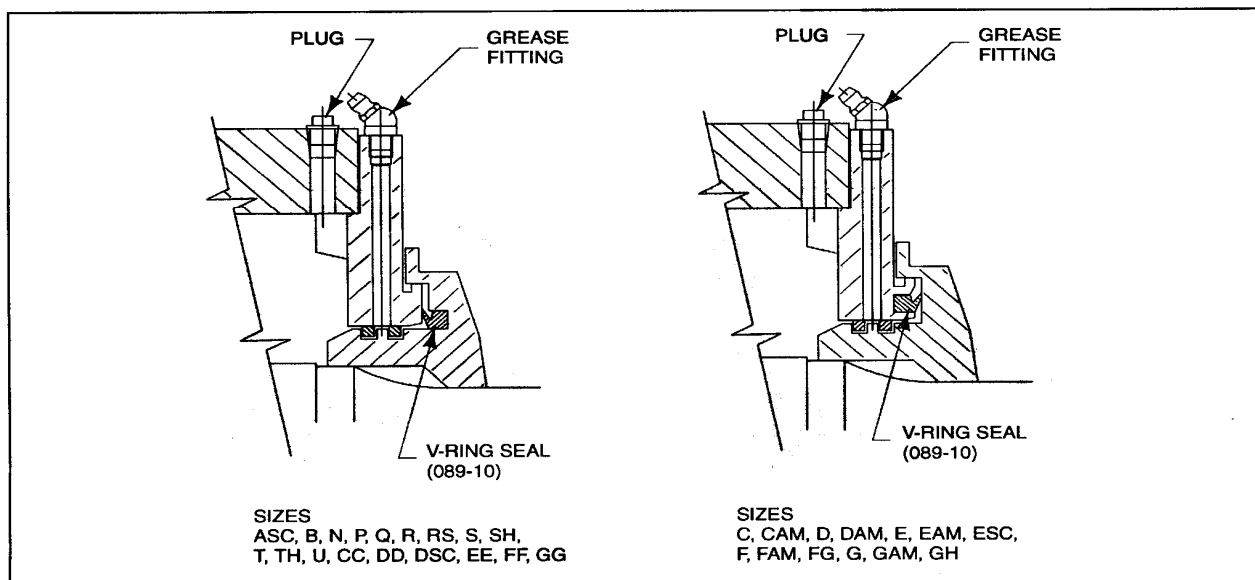

Figure 2-10 • V-Ring Seals
The Type "-10" bearing assembly incorporates a v-ring seal (see *Figure 2-10*) in combination with piston rings. This positive contact seal improved on the piston ring/labyrinth design with regard to keeping contaminants out of the bearings. These bearing assemblies use a labyrinth with a profile matching the bearing end cover and are identified with a "-10" suffix on the part number. Any older unit can be retrofitted to the current design so long as both the labyrinth and bearing end cover are replaced with "-10" parts. In some cases a change in release collar is needed as well. Failure to do so will prevent free rotation of the shaft upon reassembling.
2. Refer to *Figure 2-10* for correct placement of v-ring seal in labyrinth or end cover, depending on site.